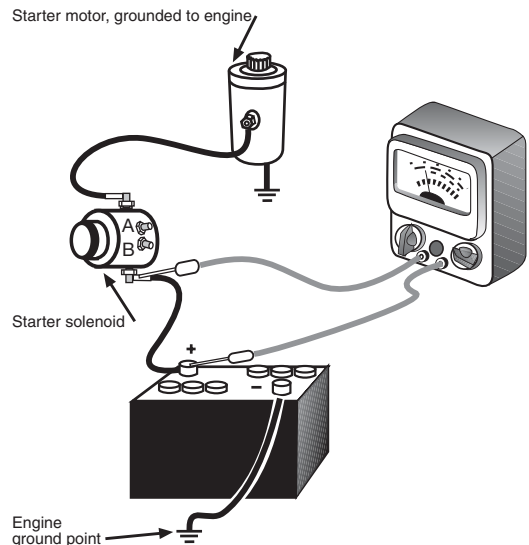

Figure 6-9. Starter circuit voltage-drop test—Step 1.
Figure 6-9 shows the meter hook-ups for this test. Before you begin, locate the connections labeled "A" and "B." "A" is the feed from the ignition switch (or start button) that powers the solenoid when the key or button is engaged. "B" is the ground for the magnetic coil in the solenoid. It has a black wire.
*Step 1.* Hook up the multimeter as shown in Figure 6-9. Your voltage reading with the engine cranking should not exceed 0.3 volt. If it does, then:
In the electrical circuit, your neutral safety switch lies between the ignition switch and the starter motor solenoid. When you shift the control unit into neutral, the safety switch should be in the "closed" position, completing the circuit between the ignition switch and the terminal marked "A" in Figure 6-9.